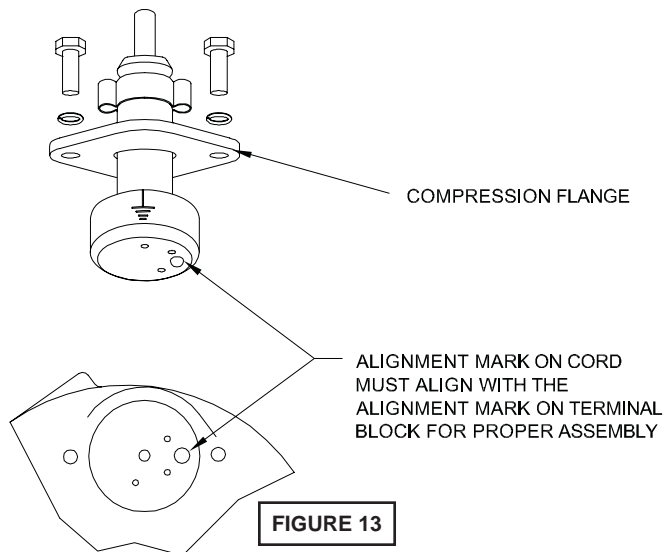

FIGURE 13
Power/Control Cord - Refill the cooling oil as outlined in paragraph 1.3. Make wire connections as outlined in paragraph 4.3. Insert female end of cord plug into housing bore aligning timing mark with hole in terminal block (21), see Figure 13. Compress cord plug with compression flange (16a) by tightening hex bolts (11) into the housing (6). Torque to 132 in-lbs.